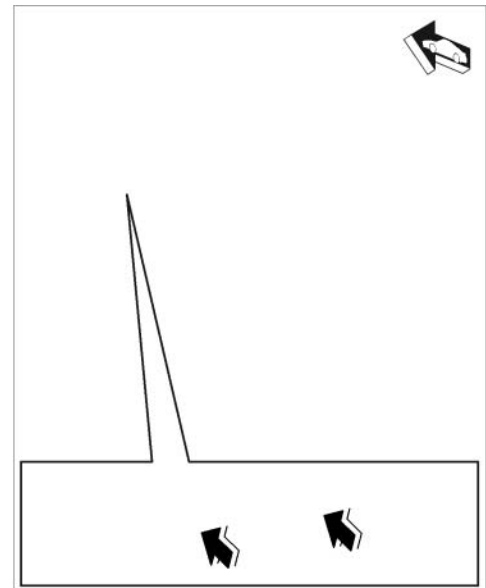

Figure 53
6.1 Screw in fastening screws close to the roof console ⇒ *Figure 53 -arrows-*.